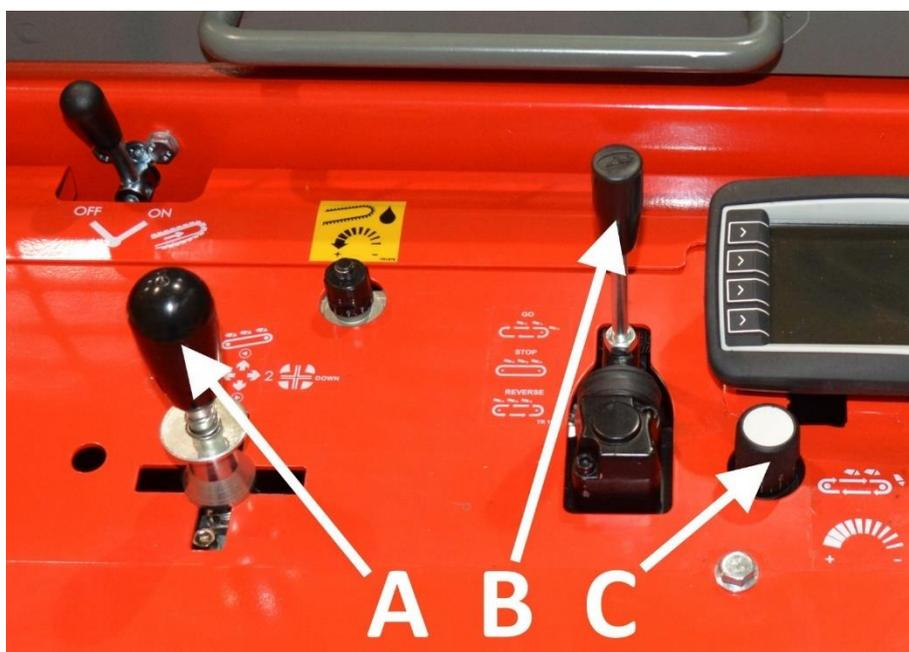
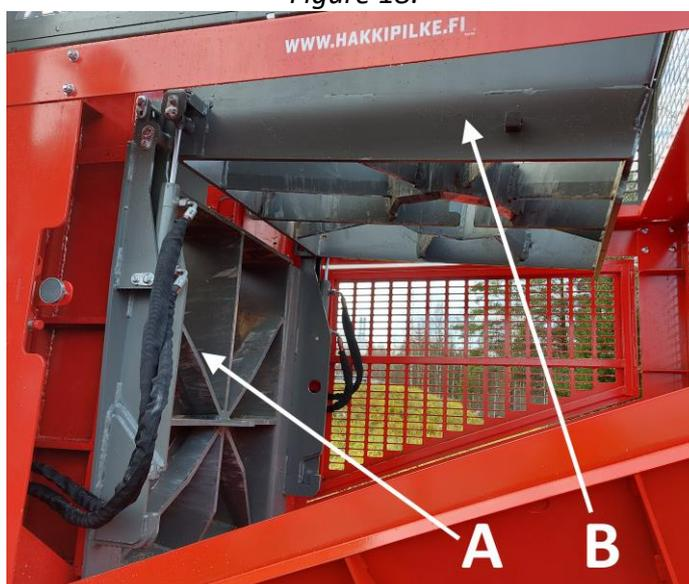

Figure 17.
Figure 19.
The Hakki Pilke 50 Pro firewood processor's out-feed conveyor belt is driven by a hydraulic motor. To change the speed of the belt, use adjuster C in Figure 17. Changing the conveyor angle in the lateral direction is done hydraulically using lever A in Figure 17:
By using lever B (Figure 17), you can stop the conveyor (middle position) and, if necessary, reverse the conveyor belt for a short distance (approx. 1 m) by pulling the lever back if a piece of wood is stuck between the conveyor cleaning grille and the upper roller, for example.
The machine features a MultiBlade™ splitting knife, which consists of the basic knife (A in Figure 19) and what is called a “multiplier knife” (B in Figure 19), which can be lifted to a raised position if the log diameter is smaller and it is sufficient to split it into eight parts, for example (instead of 16 or 24). The multiplier knife is raised as follows:
3. Lift multiplier knife B to the top position (as shown in Figure 19) by turning control lever A to the left, as shown in Figure 17.
Lower the multiplier knife by completing the steps in reverse order. In other words, the multiplier knife can be lowered by turning lever A to the right (Figure 17) when locking pin D and the guards have been detached.